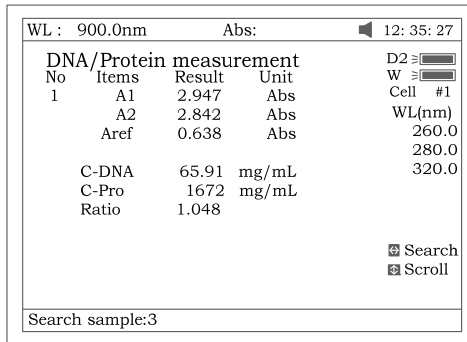

Fig 66
- Press the key **[<]** or **[>]** for searching. Input the sample number (Fig 66), the result will be displayed on the screen. Press the key **[□]** or **[□]** to browse the test results one by one.